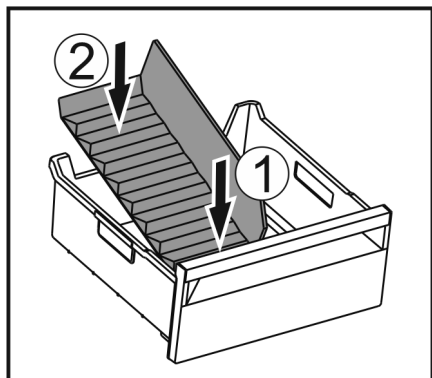

Fig. 168
- Insert the front part of the ice compartment divider. Fig. 168 (1)
- Lower the rear part of the ice compartment divider to the drawer bottom. Fig. 168 (2)